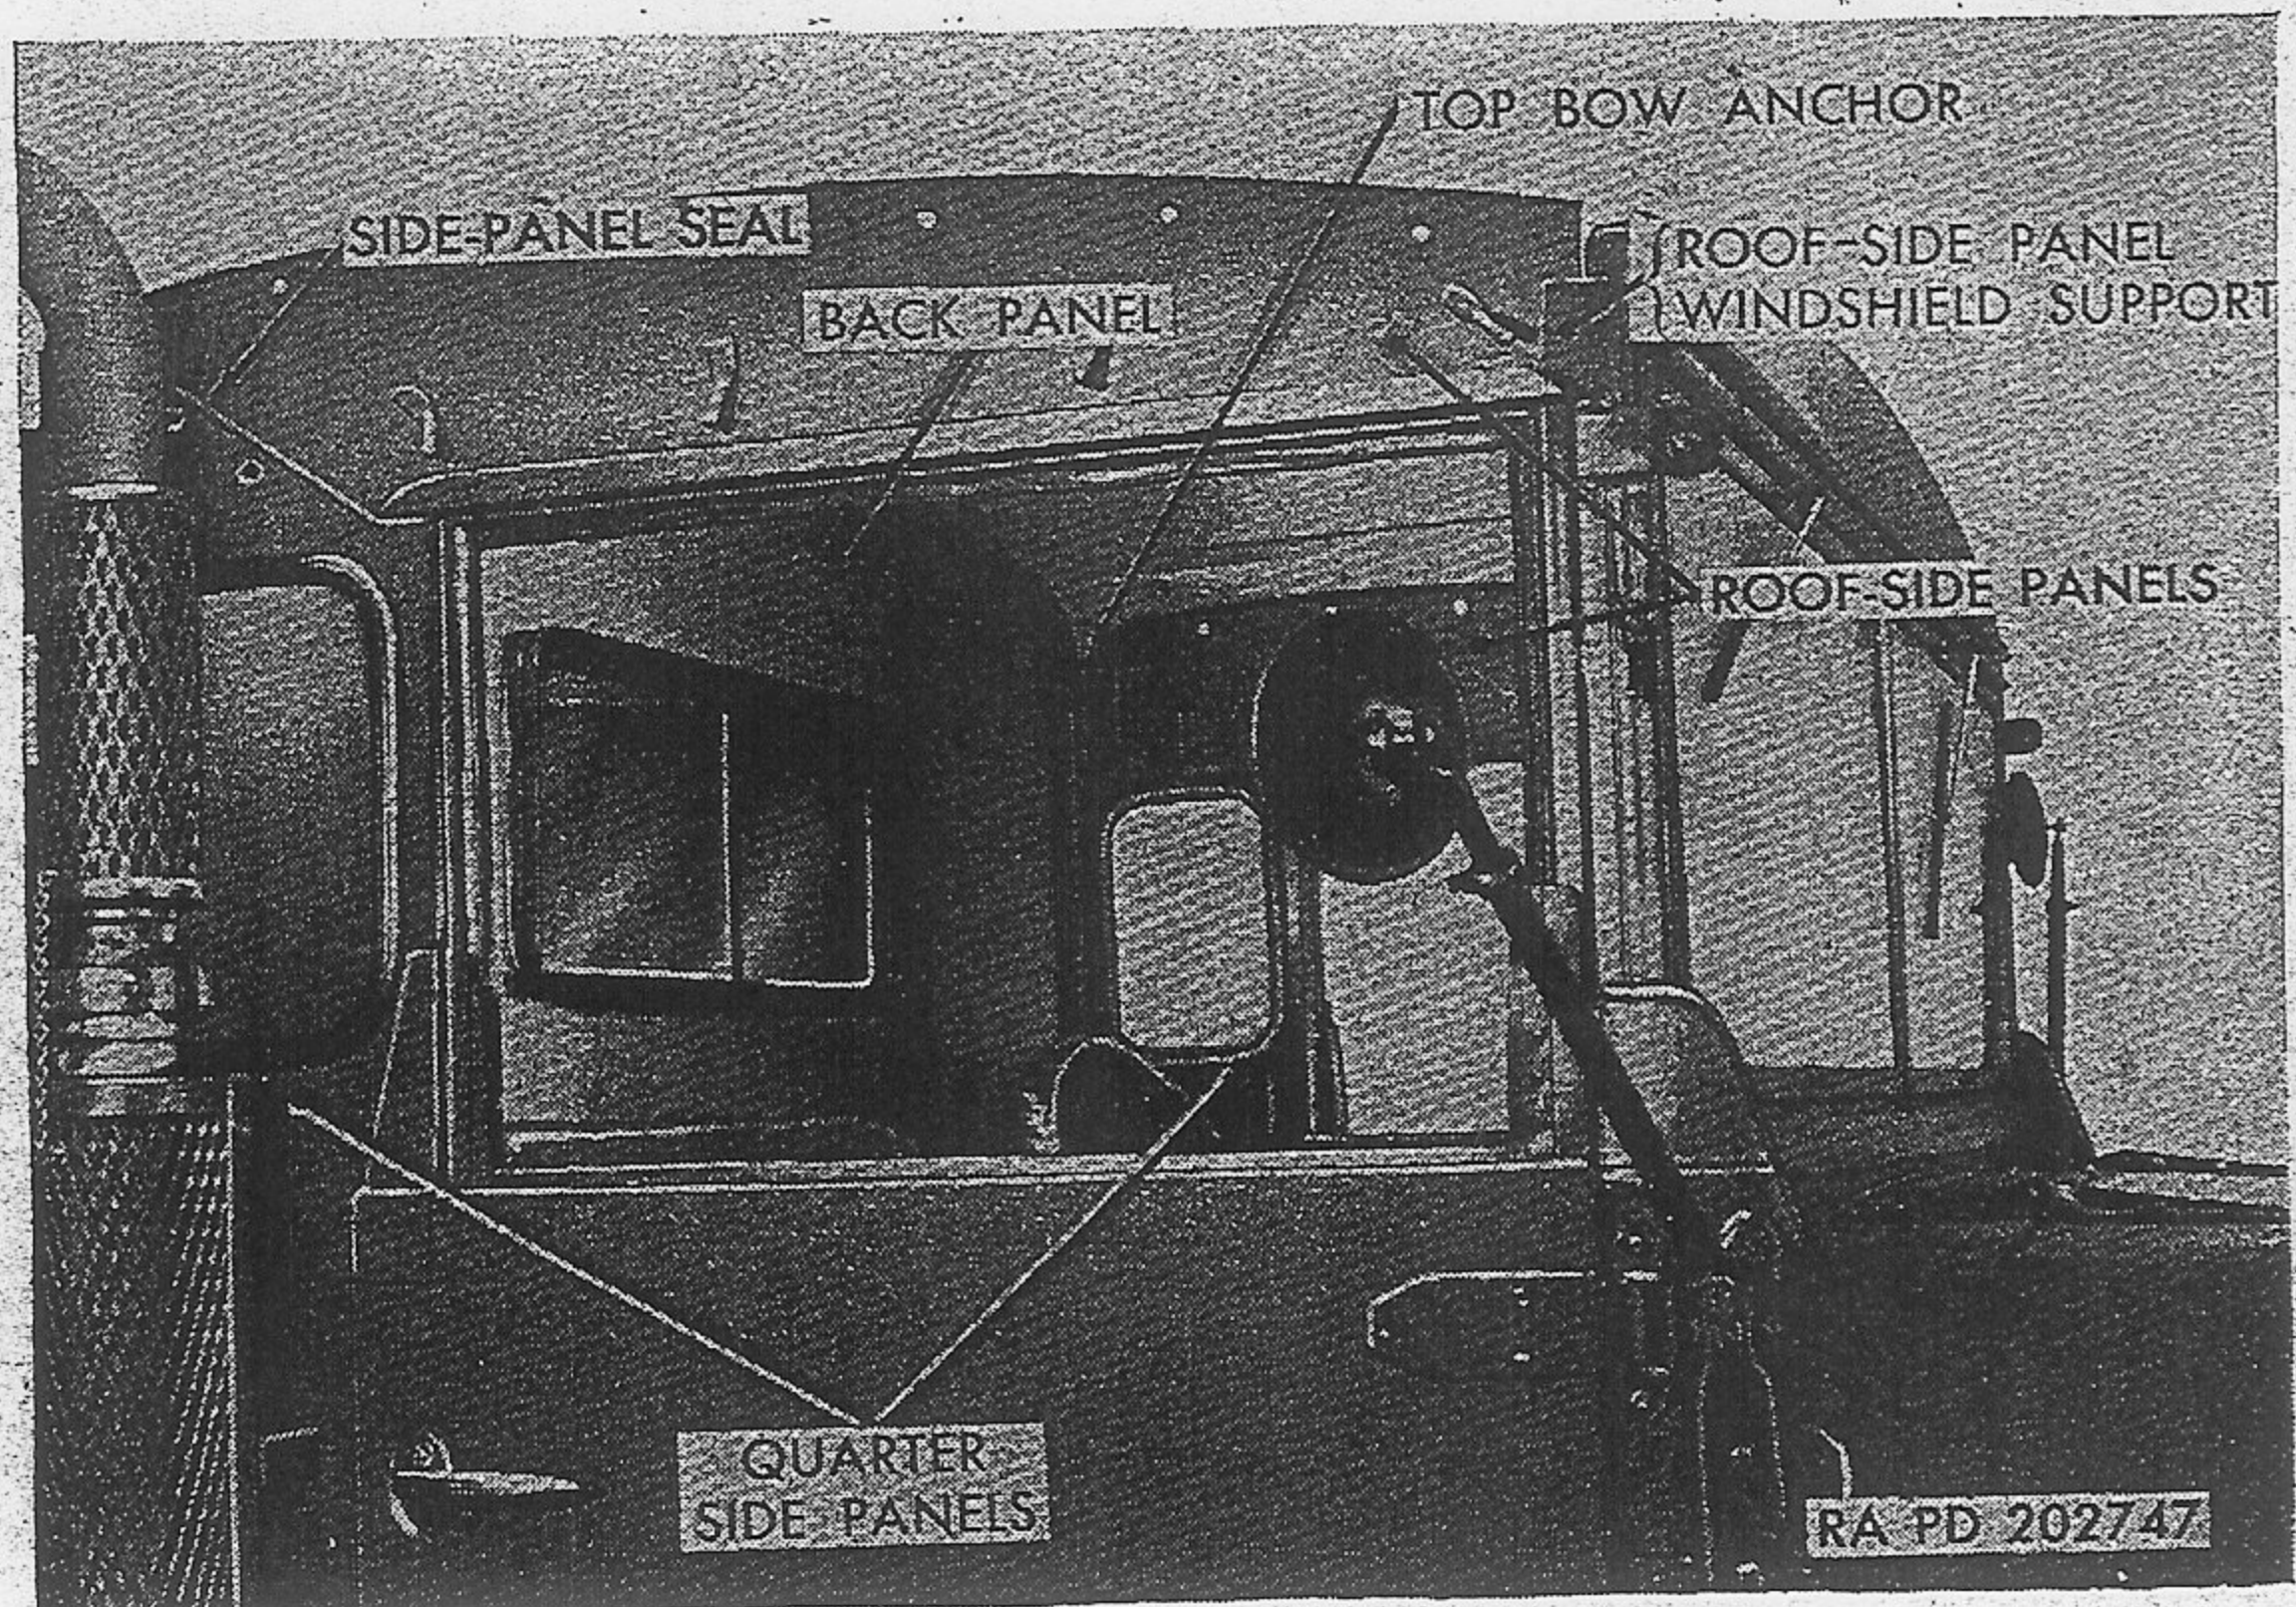

Figure 9. Roof-side panels installed.
- (1) Place one side-panel seal on each side panel, with the flange toward inside and with the hole nearest the end over the panel stud. Raise top bow to approximate required height.
- (2) Install original vehicle right and left roof-side panels so that they rest on roof-side panel windshield supports, top-bow anchors, and side-panel studs; holes in seals aline with holes in panels, as shown in figure 9. Adjust top bow to suit. Locate the two holes of side panel on right
- (5) Insert two  $\frac{5}{16}$  x  $\frac{5}{8}$  hex-head cap screws from inside of cab through holes in side panels, seals, and roof-side panels, install washers and nuts on outside, and tighten.
- (6) Using the side panels as templates, drill one  $\frac{3}{8}$ -inch diameter hole on each side from inside of cab, as shown in figure 7. Insert the  $\frac{5}{16}$  x 1 hex-head cap screws from inside of cab and secure with lock washers and nuts, as shown in figures 9 and 11.